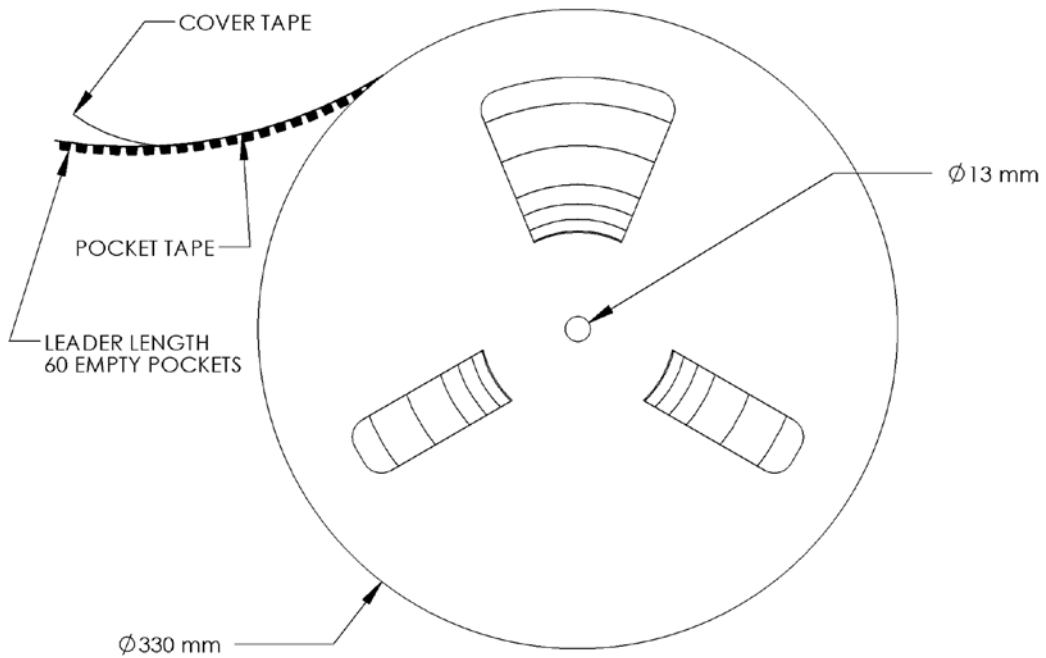

Figure 12: Emitter Reel specifications (mm).
- Maximum DC forward current is determined by the overall thermal resistance and ambient temperature. Follow the curves in Figure 12 for current derating.